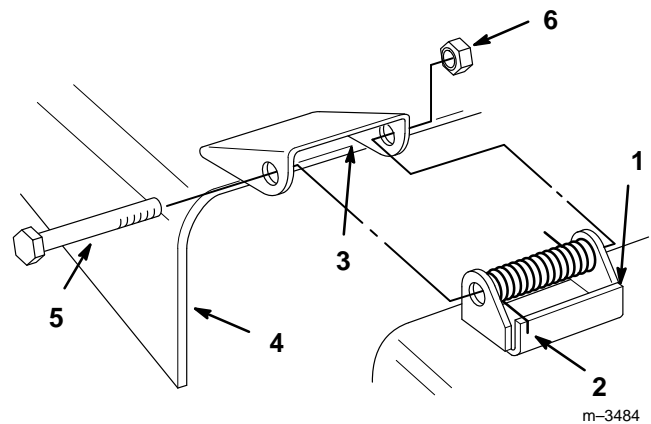

Figure 1
1. Place the springs into the brackets on the mower with the hooked ends over the raised back of the bracket (Fig. 1).
2. Align the grass deflector with the holes in the brackets and the spring straight ends in the space under the hinge and above the deflector (Fig. 1).
3. Secure the deflector to the bracket with bolts through the grass deflector, springs and brackets. Secure with lock nuts (Fig. 1).